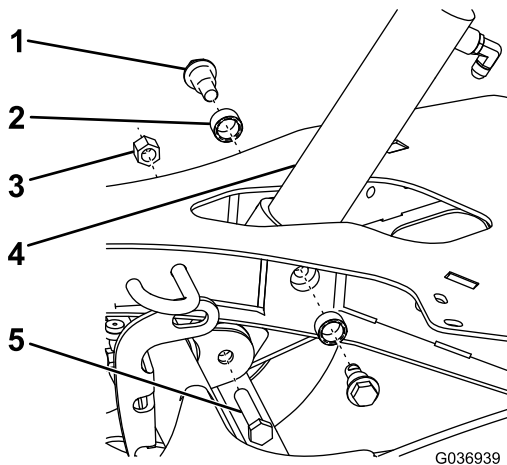

Figure 8
1. Attach the hydraulic cylinder to the A-frame using 2 shoulder bolts (1/2 inch) and bushings (Figure 8), and torque the bolts to 77 N·m (57 ft-lb).
2. Attach the hydraulic cylinder rod to the machine frame using a hex-head bolt (1/2 inch) and nylon locknut (1/2 inch) as shown in Figure 8.